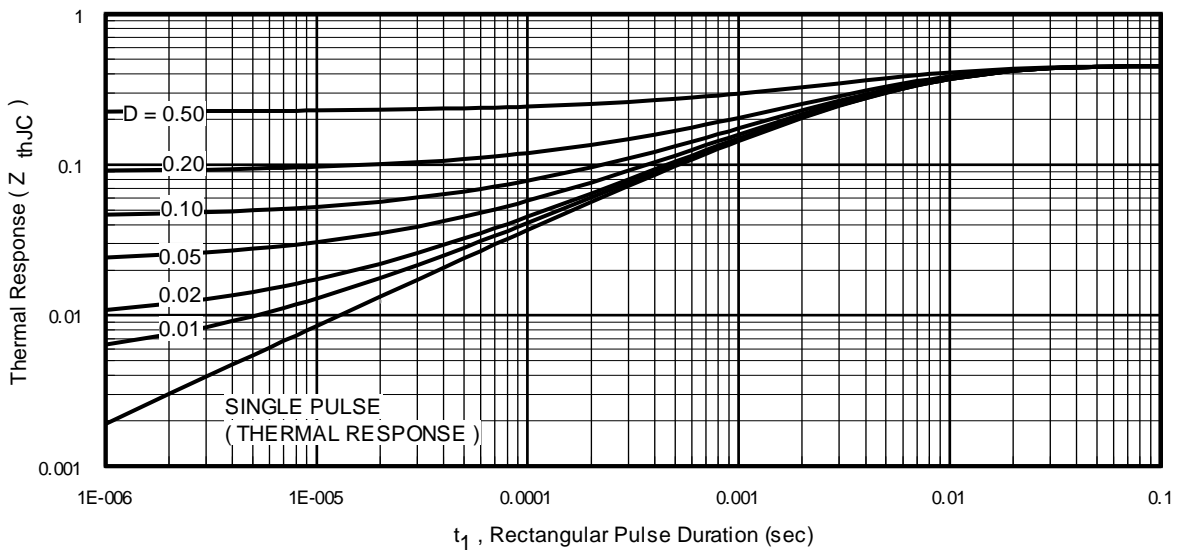

Fig 11. Maximum Effective Transient Thermal Impedance, Junction-to-Case
- ① Repetitive rating; pulse width limited by max. junction temperature. (See fig. 11).
- ② Limited by T_{Jmax} , starting $T_J = 25^\circ\text{C}$, $L = 0.24\text{mH}$, $R_G = 25\Omega$, $I_{AS} = 75A$, $V_{GS} = 10V$. Part not recommended for use above this value.
- ③ $I_{SD} \leq 75A$, $di/dt \leq 220A/\mu s$, $V_{DD} \leq V_{(BR)DSS}$, $T_J \leq 175^\circ\text{C}$.
- ④ Pulse width $\leq 1.0\text{ms}$; duty cycle $\leq 2\%$.
- ⑤ $C_{oss\text{ eff.}}$ is a fixed capacitance that gives the same charging time as C_{oss} while V_{DS} is rising from 0 to 80% V_{DSS} .
$Z_{thJC}(D, t_{av})$ = Transient thermal resistance, see figure 11)